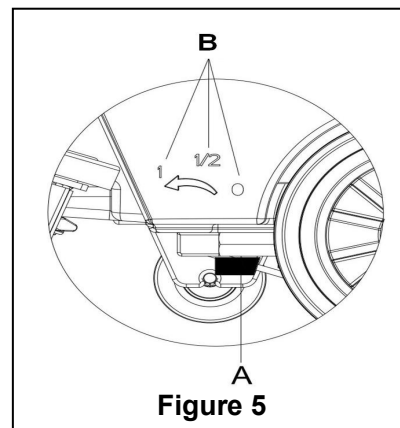

Figure 5
Regulating the ball valve handle (A, Figure 5) must be done under the condition when the power switch (38) is in the "O" position.
12. The volume of the water flow may be adjusted through the ball valve handle (A, Figure 5) according to the amount of water practically required for scrubbing the floor.